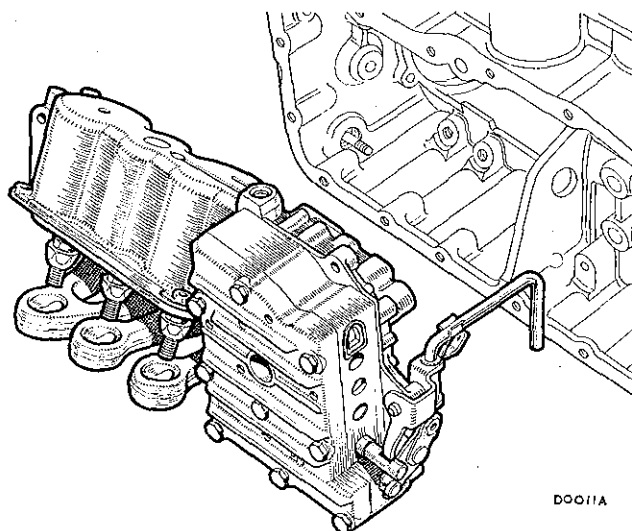

Fig. Fa.7
- (13) Remove the valve block and servo unit securing bolts, and on later models unscrew and remove the engine oil feed pipe adaptor and withdraw the valve block connecting pipe through the adaptor hole. Depress the tops of the bands and unhook them from the servos and lift out the valve block and servo unit as an assembly (Fig. Fa.7).